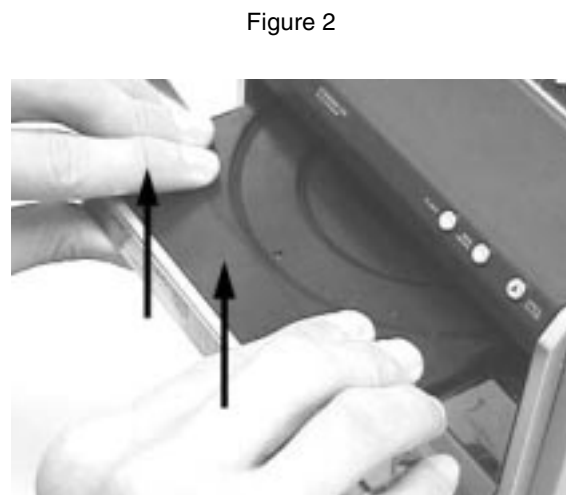

Figure 3
- 5) Slide out the Loader Tray and remove the Cover CD (pos 110 + pos 111) in the direction as shown in Figure 3.